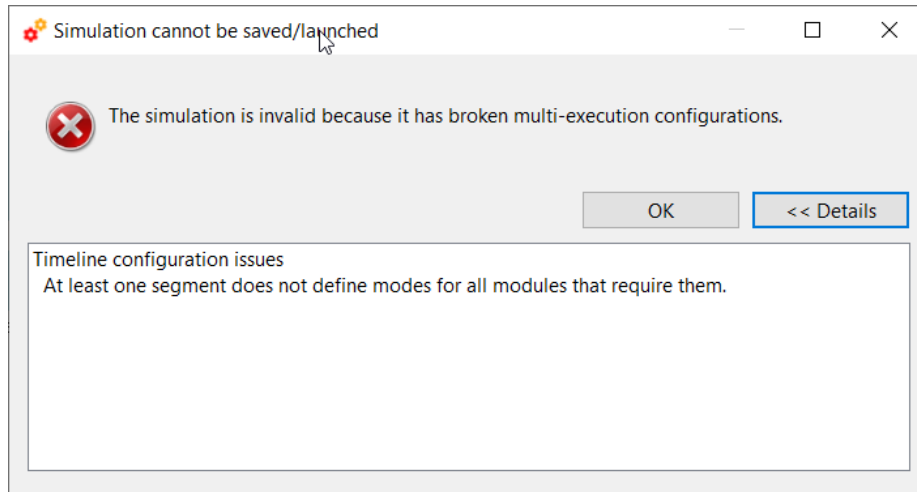

Figure 4-120: Execution prevented due to configuration issues
- ❑ If any parameter has been added or deleted from the configuration files of any active module involved in the simulation, the execution will not be carried out, and a dialog will be displayed listing the configuration issues as shown in Figure 4-120. See section 4.4.2.6 for details.